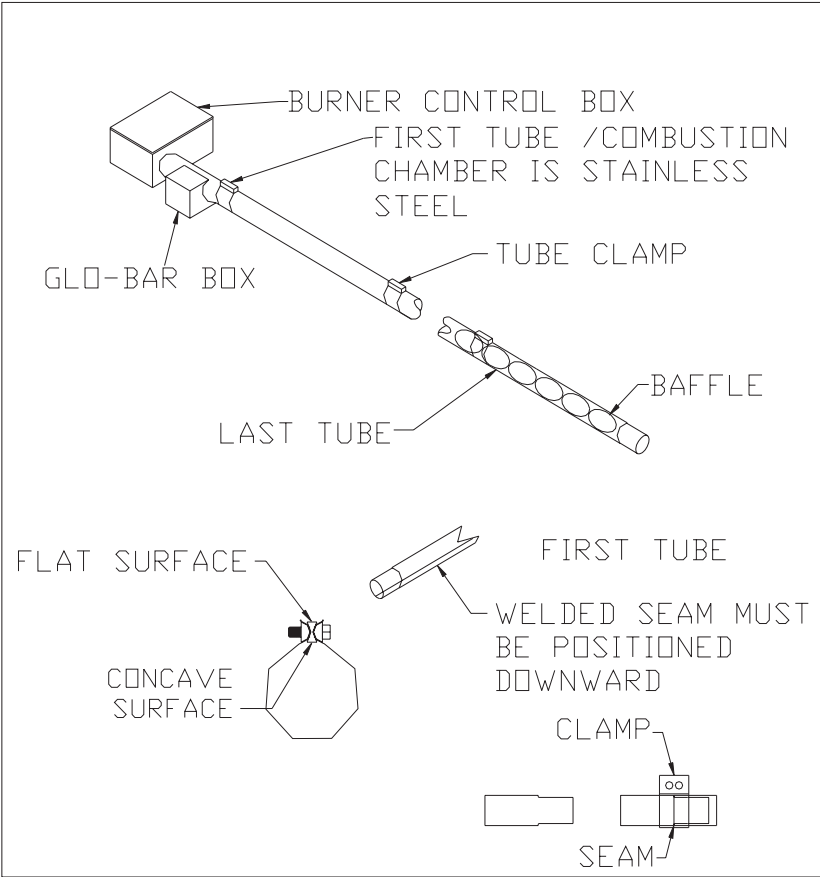

Figure 2.4.1
2. Mate tubes completely then recheck suspension hanger locations and secure. Center clamp on seam and torque clamp bolts to 50 - 60 lbs. - ft. Figure 2.4.1